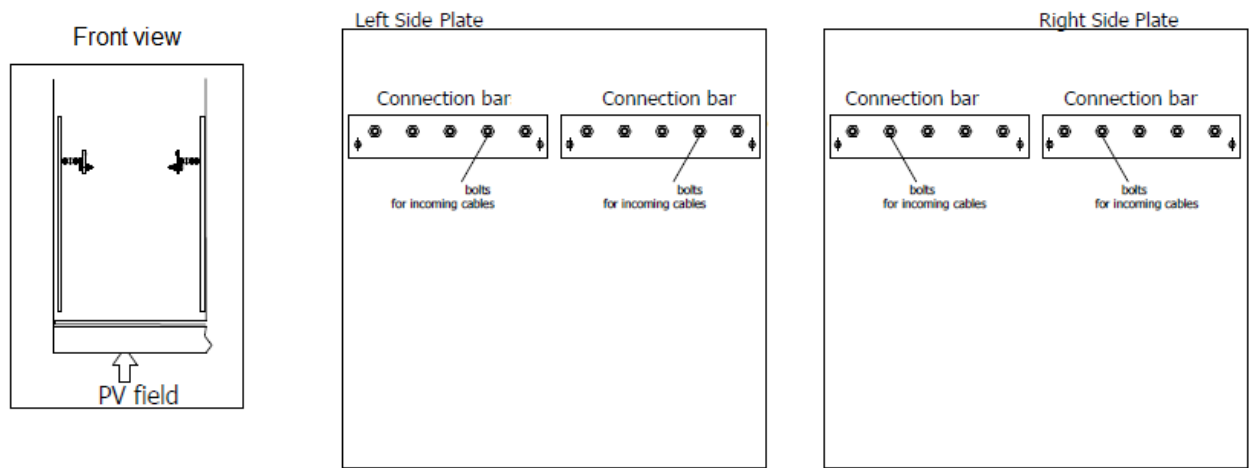

Figure 31: Configuration 6 of terminal board X2, Neutral configuration
4. **Configuration 6** Neutral configuration, suitable for connection to external recombiners (Figure 31).